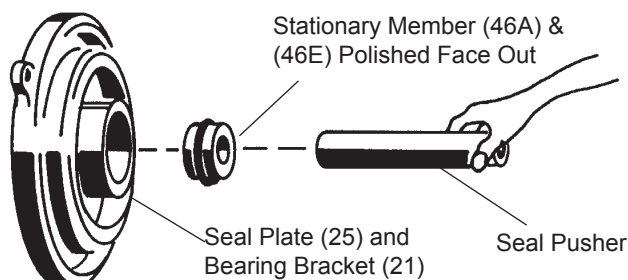

FIGURE 7
Seal - Clean and oil seal cavities in bearing bracket (21) and seal plate (25). Lightly oil (**DO NOT use grease**) outer surface of inboard stationary member (46E) and outboard stationary member (46A). Press inboard stationary member (46E) firmly into bearing bracket (21) and outboard stationary member (46A) into seal plate (25), using a seal pusher (see parts list- seal tool kit), nothing but the seal pusher is to come in contact with seal face (See Figure 7).